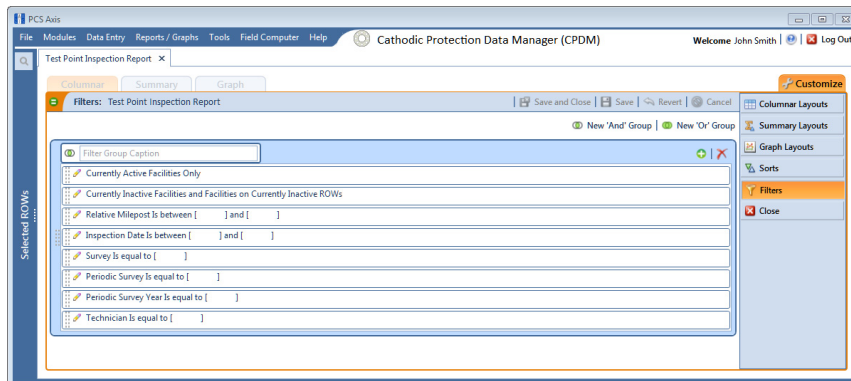

Figure 16-50. Filters
- Click the **Customize** tab  then the **Filters** button  to open the *Filters* page (Figure 16-50).